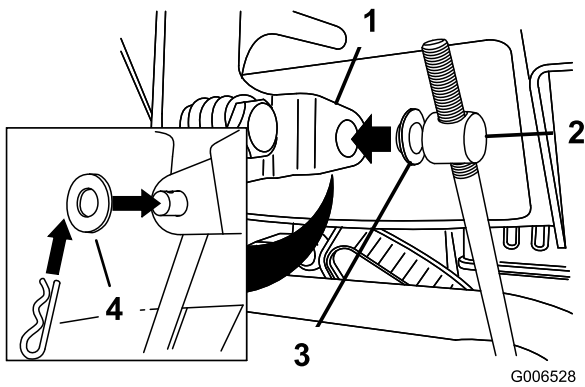

Figure 11
3. Remove the hairpin cotter and the outer washer from the trunion on the upper end of the speed control rod (Figure 11).
Note: To make installation easier, leave the flat washer on the trunnion (Figure 11).
6. Lift up on the speed control rod and insert the trunnion into the hole in the speed selector lever (Figure 11).